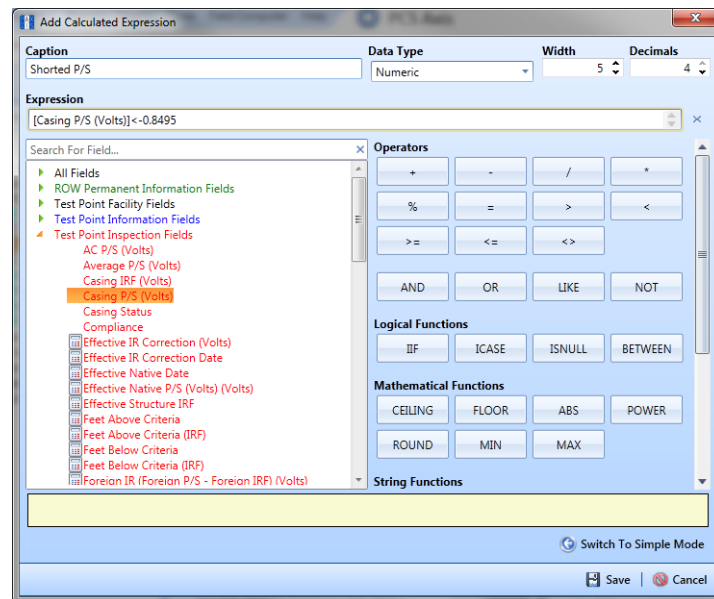

Figure 3-39. Add Calculated Expression (Advanced Mode)
- Click  **Calculated** in the toolbar to open the *Add Calculated Expression* dialog box. If you want to work with the expression editor in advanced mode, click  **Switch To Advanced Mode** (Figure 3-39).